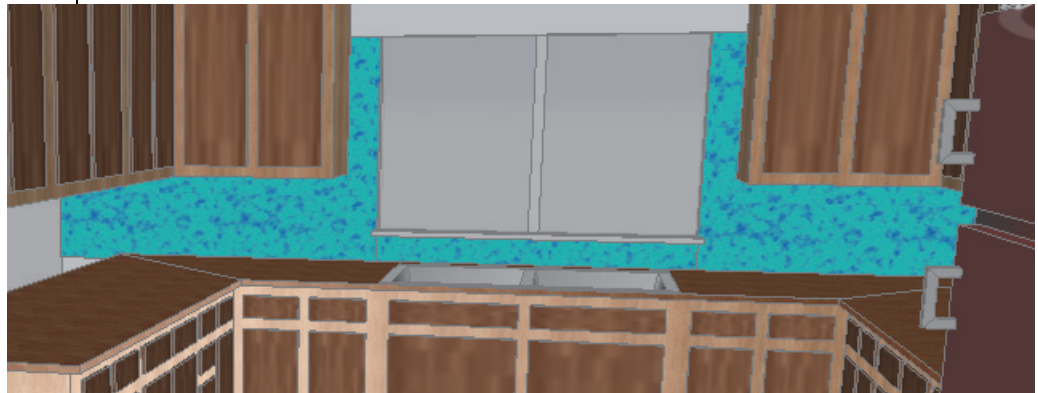

Figure 10–32
11. Drag-and-drop the Backsplash material onto the backsplash area in the Kitchen view, as shown in Figure 10–32.